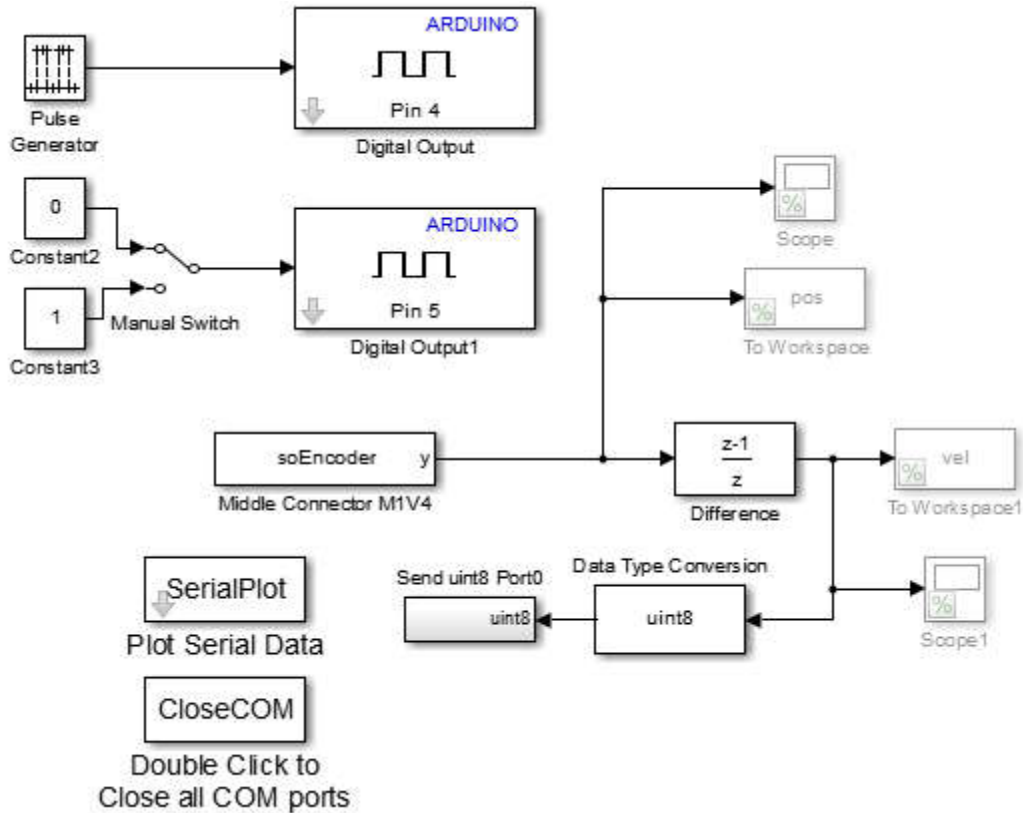

Figure 5: Serial Step Response
- The switch shown in Figure 5 cannot be toggled when external mode is not used so use a pulse generator block to create the step input: